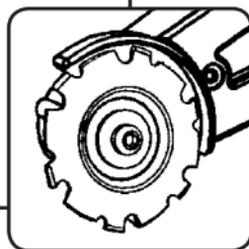

Fig.3
4. The Mini Grinder is packaged with a Mini Woodcarver Blade fitted, ready for use. Ensure that the cutter clamping bolt is tightened fully. (as shown in fig.3)